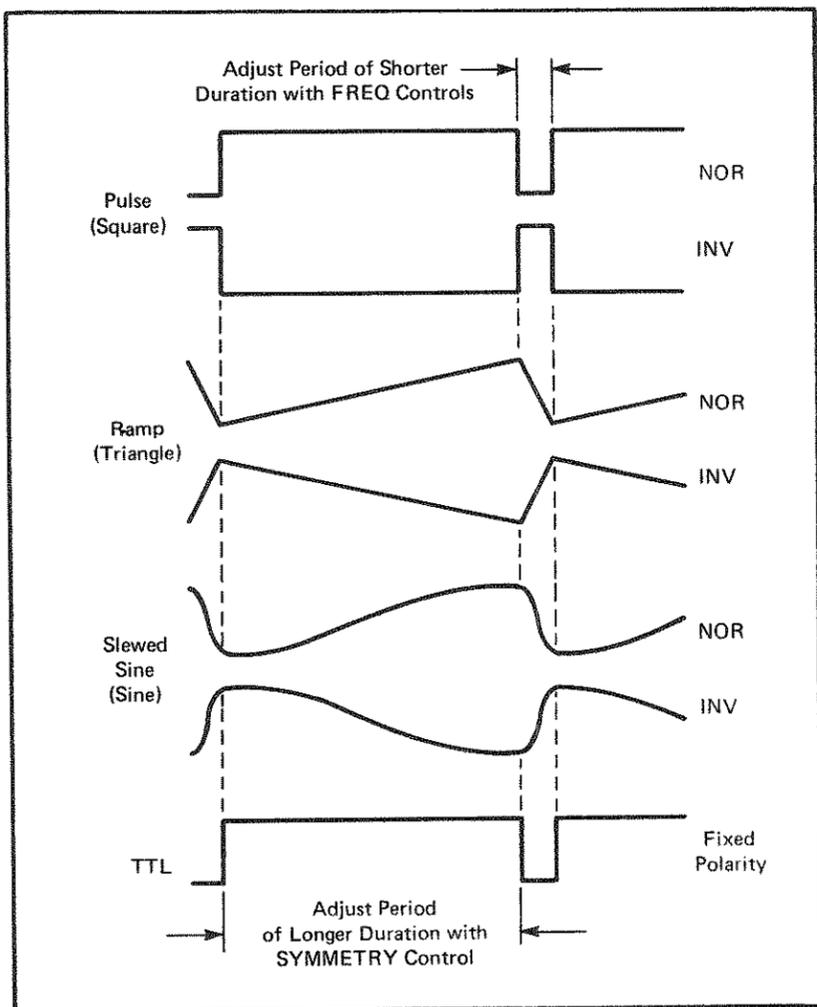

Fig. 5. Pulse, ramp, and slewed sine wave generation.
An inverter allows either polarity output to be selected. Fig. 5 illustrates the types
- Select the desired polarity with the NOR/INV switch. See Fig. 5 for reference.